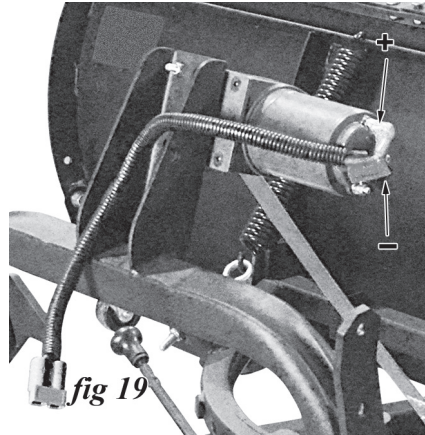
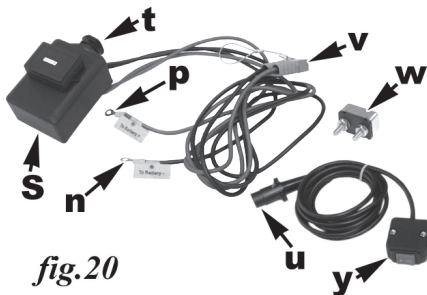

fig 19
fig.20
1. Connect the winch leads (fig.18), tagged "To Motor", to the contacts on the winch motor as shown (fig.19). Be sure the rubber caps cover the connections well to prevent water entry. The red lead should be connected to the positive (+ upper) terminal on the winch, and the black lead connected to the negative (- lower) winch terminal.
The control box includes a transponder that can connect it wirelessly to a wireless remote control switch (optional at extra cost). There is also a hard-wired manual winch control switch (y, fig.20) included to operate your plow.
1. Attach the control box (s,fig.20) to the vehicle in the engine compartment. Mount it securely, away from moving parts and sources of heat. Take into account the amount of wire available to reach the vehicle battery and the amount of wire available to connect to the winch leads.
2. Run the red (p, fig.20) and black wires (n, fig.20) attached to the blue 2 inch connector plug (v, fig.20) forward to a point outside the front of the vehicle near the custom mount, where the plug can easily be connected to the plow lead. Leave some slack.
4. The red wire must be connected to the positive terminal of the battery with an intervening in-line 35 amp circuit breaker (w, fig.20) or fuse. The 35 amp circuit breaker is necessary to prevent possible electrical damage to either the winch or the vehicle's electrical system.
5. Run the hard-wired control lead so that the switch (y, fig.20) goes into the cab of the vehicle and the plug (u, fig.19) connects to the socket in the top of the control box (t, fig.20).